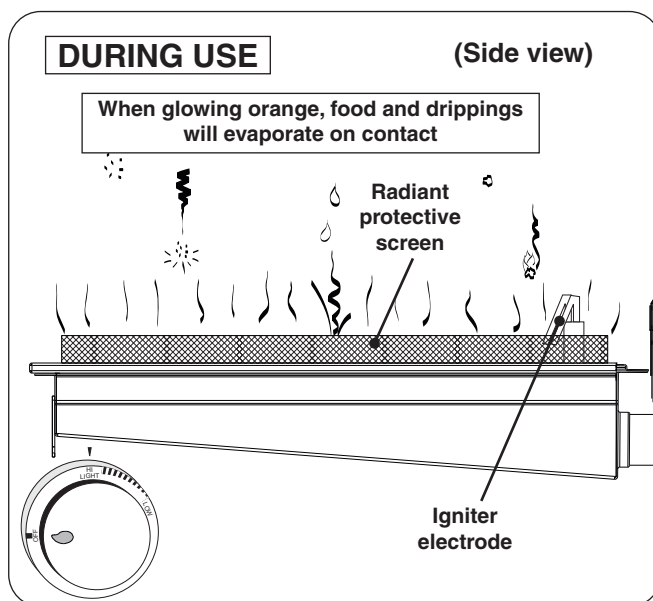

Fig. 30-3 Infrared burner - DURING USE
- **DO NOT place food on the cooking grid until the infrared burner glows orange (Fig. 30-3).** Drippings are heated and evaporate instead of sticking to and impairing burner function.